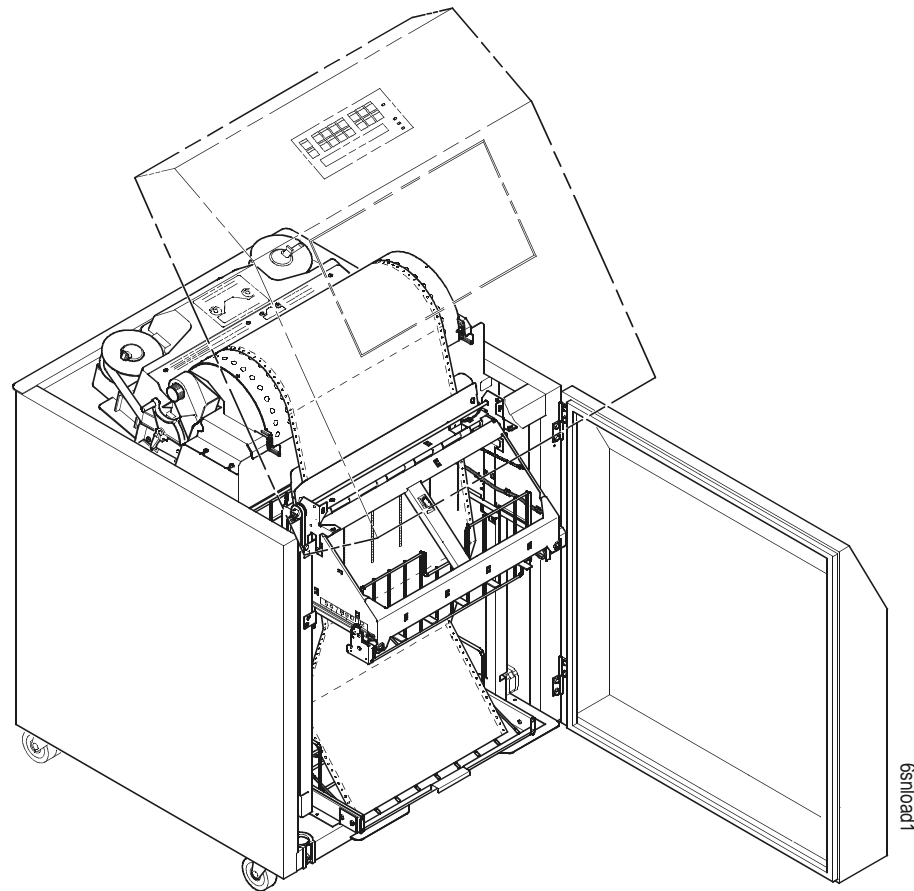

Figure 74. This figure shows the path of paper as it moves through the power stacker.
1. Press the **PAPER ADVANCE** key on the the stacker operator panel and hand feed the paper down into the paper throat. Continue to advance the paper until it reaches the wire tent and there are 3 to 5 extra sheets in the stacker. Make sure the paper passes through the throat of the paper stacker. (Figure 74.)